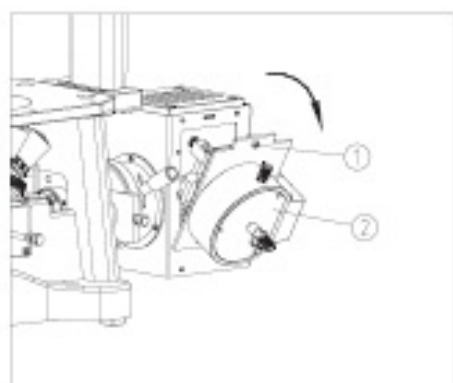

Figure 10
(1) Loose the lock-screw 1 completely by M4 inner hexagon spanner, rotate about 45 degrees as the direction showed, and take off the bulb holder 2. (Fig. 10)